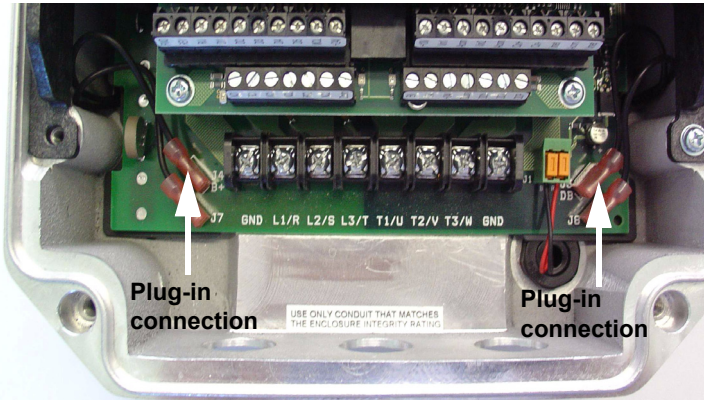

Figure 9: Power Terminals Size 1
- On the size 1 the DB resistor is connected by fast-on terminals 6.35 mm (see Figure 9 on page 28).